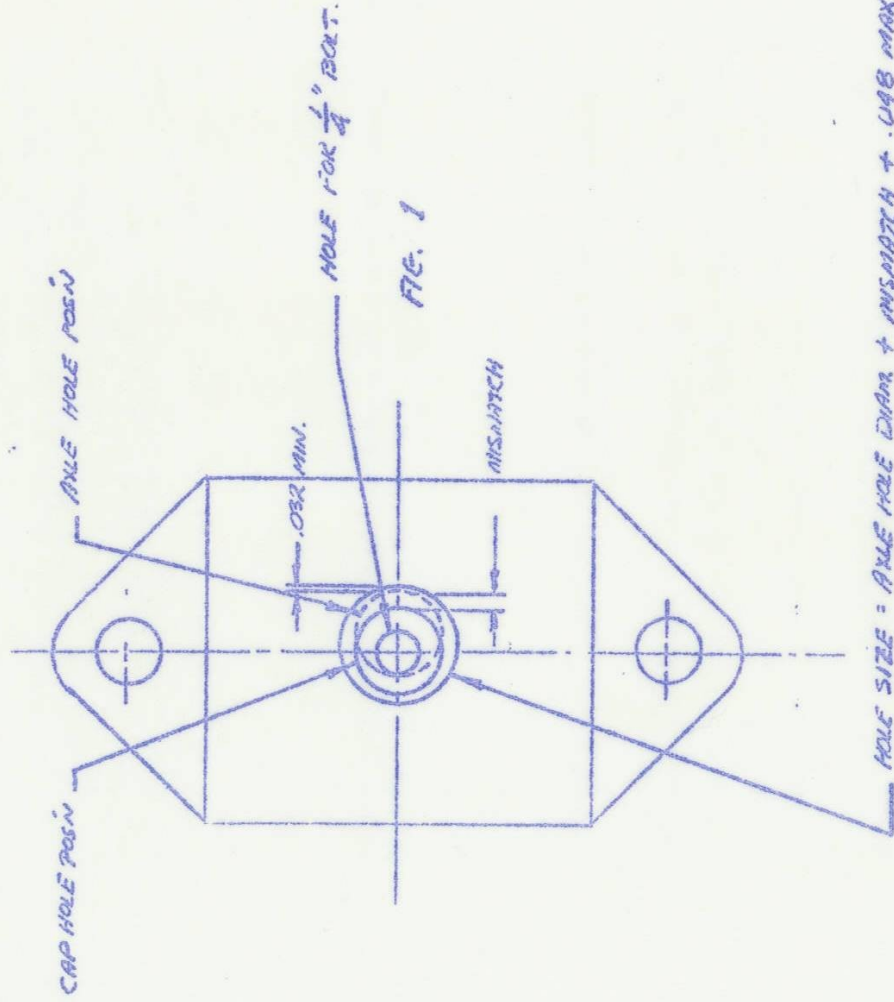

FIG. 1
2. BORE OUT CAP SUCH THAT NEW HOLE DURN IS AS SHOWN IN FIG. 1.